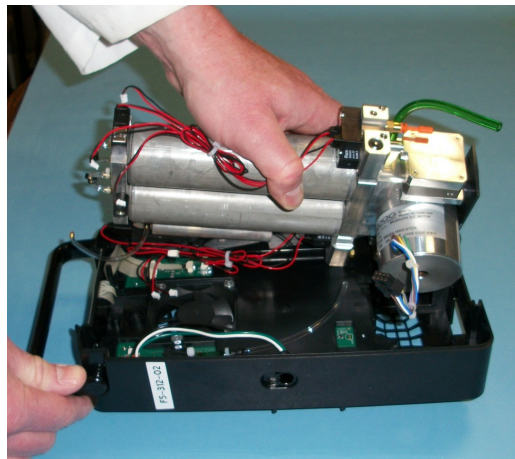

Figure 5.15
12. Carefully remove the complete PSA assembly from the center housing by pulling it upwards and slipping compressor mox connector through center section. (See Figure 5.15.)